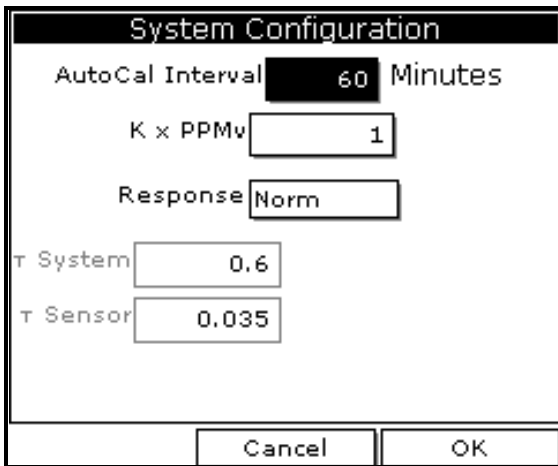

Figure 22: System Configuration Window
3. Use the arrow key to scroll to **System** and press [ENTER]. A screen similar to Figure 22 appears.